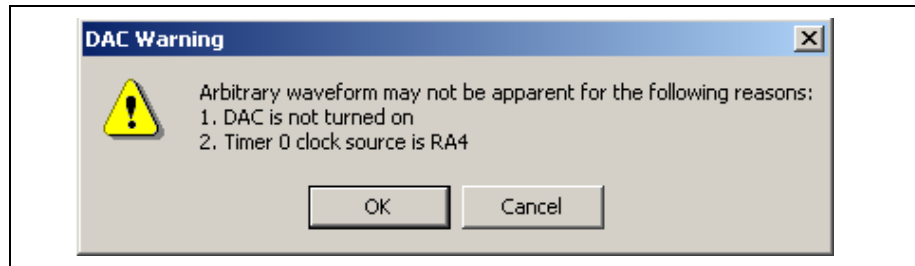

Figure 3.4: DAC Warning
7. Select the Timer tab on the Evaluation Board Control Panel. The Timer0 and Timer1 controls display as shown in Figure 3.4. For this example, we will use the internal clock function, FOSC/4 as the clock source for Timer0.